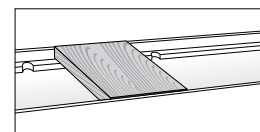

Figure 2: Wood Spacers
2. Insert wooden spacer (by others) to the installation housing to provide additional stability when finishing the surface. **[Figure 2]**